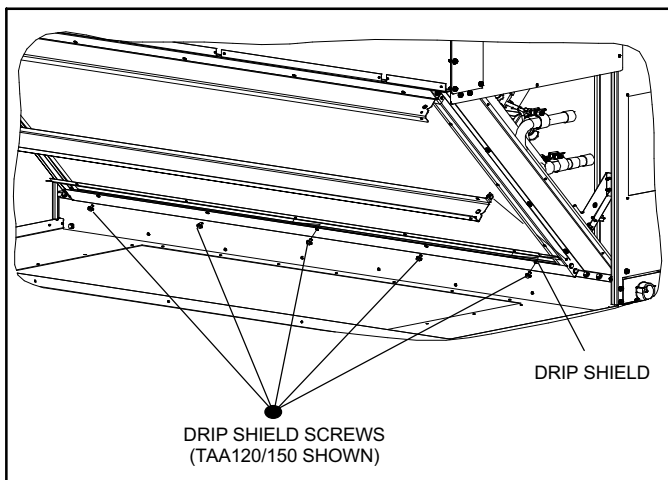

Figure 2. Typical Drip Shield Screws
5. Remove filter rack (see figure 2).
6. Remove drip shield screws (see figure 2):
- a TAA072/090: remove (4) screws
- b TAA120/150: remove (5) screws
- c TAA180/240: remove (6) screws
7. Remove drip shield (see figure 2)